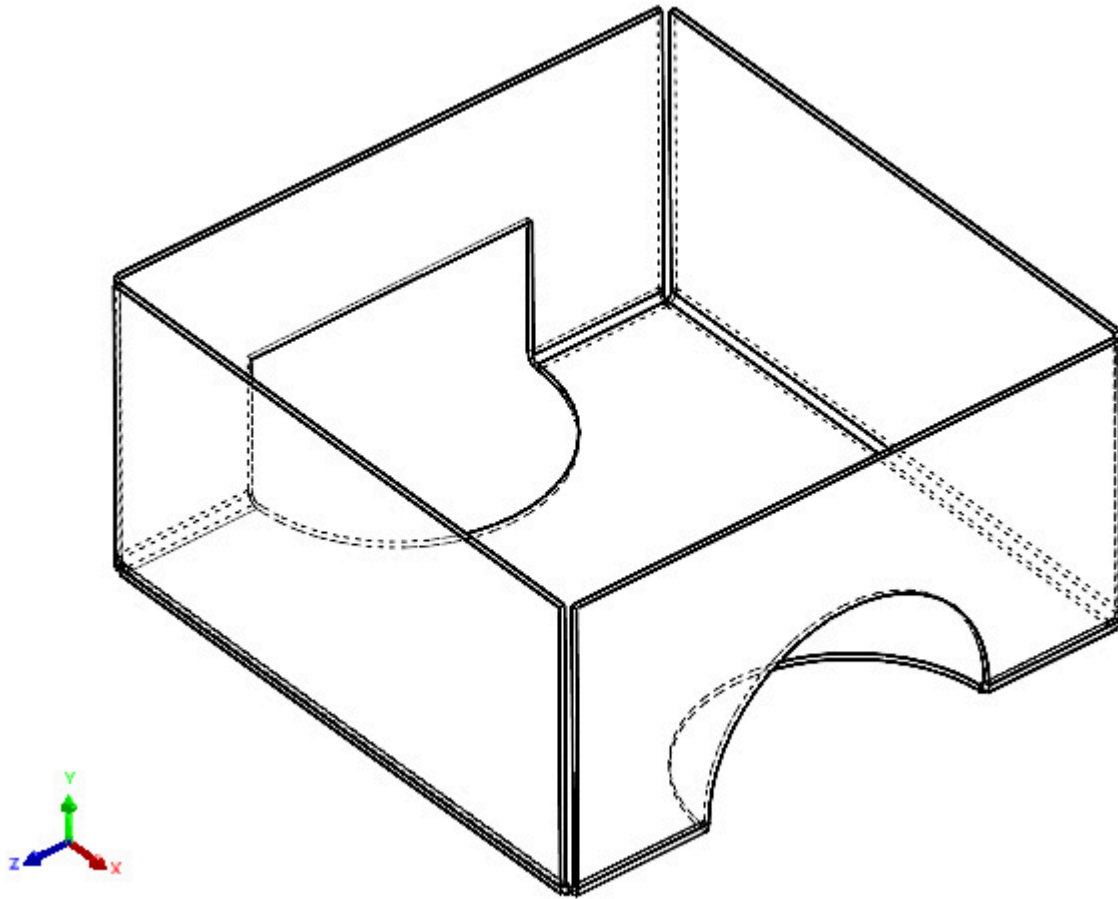

Figure 5.9: The two different cut types produce different results
7. Use this circle sketch to create a **Extruded Cut 25mm Deep, Blind**. We can now see each side has a similar cut in the **Base Flange** section, but that the cuts in the **Edge Flange** sections are completely different. The latest cut has a square upper edge, whereas the first one is rounded, as we can see in *Figure 5.9*. This further demonstrates why folding and unfolding might be useful: